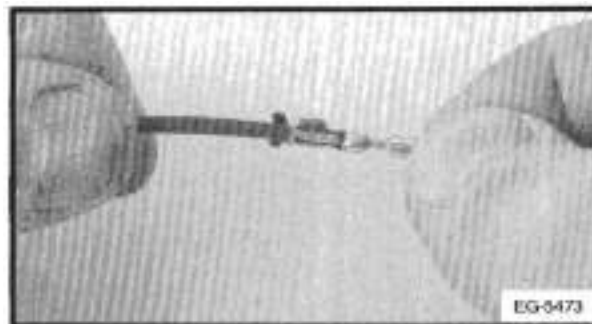

Figure 6-23. - Place Terminal Over Wire
2. Position the wire in the new terminal (Figure 6-23.).